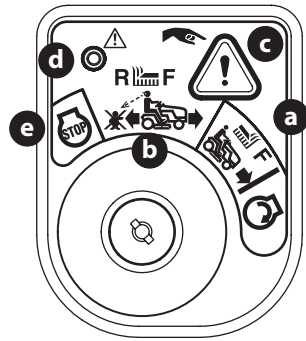

Figure 26
2. Turn the ignition key from the NORMAL MOWING MODE (a) position to the REVERSE CAUTION MODE (b) position of the ignition switch (Figure 26).
3. Press and hold the REVERSE CAUTION MODE BUTTON (c) at the top, right corner of the ignition module for 3 seconds. The red indicator light (d) at the top, left corner of the ignition module will be ON while activated (Figure 26).
4. Once activated (indicator light ON), the tractor can be driven in reverse with the PTO (blade engage) lever in the engaged (ON) position.
5. Always look down and behind before and while backing up slowly to make sure no children are around. After resuming forward motion, return key to the NORMAL MOWING MODE (a) position to return to normal mowing operation (Figure 26).
- The key is placed in either the NORMAL MOWING (a) position or STOP (e) position (Figure 26).